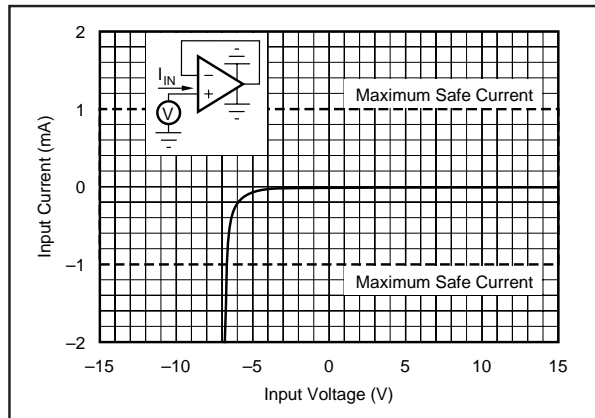

FIGURE 2. Input Current vs Input Voltage with $\pm V_{CC}$ Pins Grounded.
NOTES: (1) Stresses above these ratings may cause permanent damage. (2) Packages must be derated based on $\theta_{JA} = 90^\circ\text{C}/\text{W}$ for PDIP and $100^\circ\text{C}/\text{W}$ for SOIC. (3) For supply voltages less than $\pm 18\text{VDC}$, the absolute maximum input voltage is equal to $+18\text{V} > V_{IN} > -V_{CC} - 6\text{V}$. See Figure 2. (4) Short circuit may be to power supply common only. Rating applies to +25°C ambient. Observe dissipation limit and T_J .
Unlike BIFET amplifiers, the *Difet* OPA124 requires input current limiting resistors only if its input voltage is greater than 6V more negative than $-V_{CC}$. A $10\text{k}\Omega$ series resistor will limit input current to a safe level with up to $\pm 15\text{V}$ input levels, even if both supply voltages are lost (Figure 2).